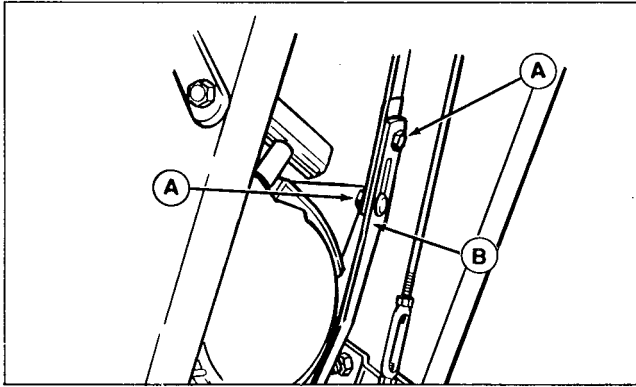

Figure 21. Auger Drive Linkage
1. Loosen the two nuts (A, figure 21).
2. Place the shift lever in 5th gear. The lower link (B) will properly locate itself due to an internal spring.